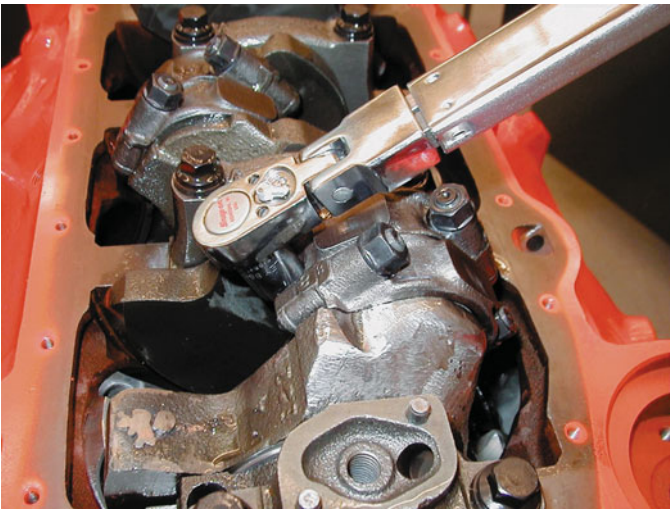

FIGURE 1-26 Using a torque wrench to tighten connecting rod nuts on an engine.
1. **Clicker type.** This type of torque wrench is first set to the specified torque and then it “clicks” when the set torque value has been reached. When force is removed from the torque wrench handle, another click is heard. The setting on a clicker-type torque wrench should be set back to zero after use and checked for proper calibration regularly. ● **SEE FIGURE 1-26.**